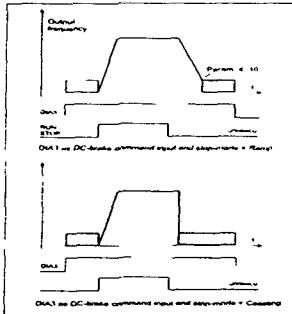

Figure 6.5-1 DIA3 as DC-brake command input
- 9 DC-braking command contact closed = In the stop mode, the DC-braking operates until the contact is opened, see figure 6.5-1